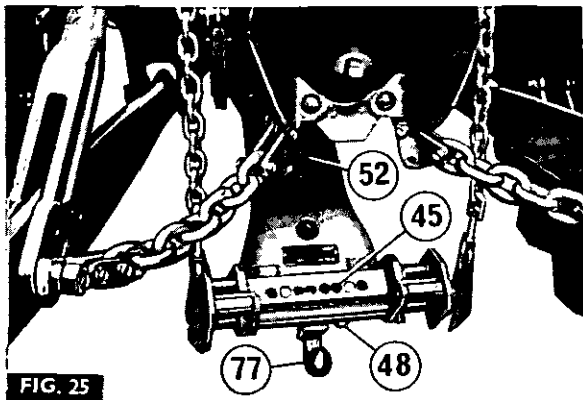

FIG. 25
23. Adjust the length of the lift chains (73) by screwing the eyes up, or down, until the eyes will just slide on to the spigots on the latches (70).
26. Remove the jack, then lower the hitch by moving the lever (65) forwards, then moving the 'Position Control' lever to the 'Down' position.
27. Remove the metal strip, then push out the drawbar pin (52) and withdraw the draw bar (50).
28. Fig 25. Fit the hitch hook (77), refitting the drawbar pin (52), then remove the hairpins (48) and locating pins (45) and refit them to centralise the hook.